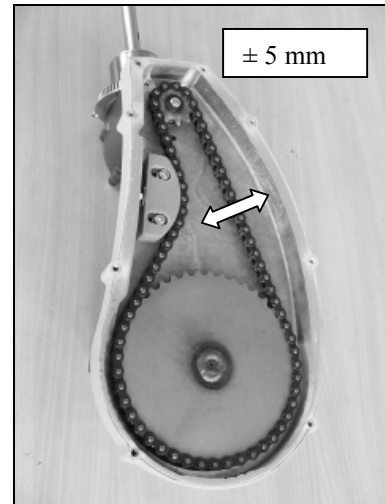

Fig. 95
- Tighten the chain with the adjusting screw 1 (± 5 mm) CAUTION! The rotation must be free!!! (Fig. 95)